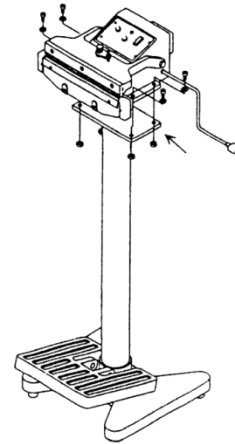

Figure 4. Attach head to stand
2. With the four long screws, connect the head (body) to the stand. (Figure 4)